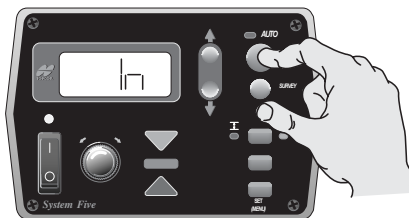

Figure 18. Storing Menu Value
- Press the Auto button again to store value (Figure 18).